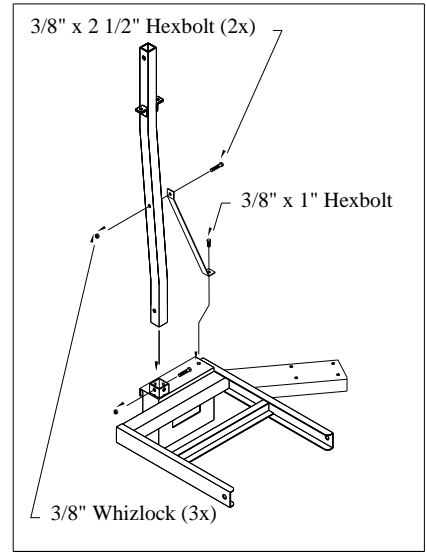

Fig. 3
3. Slip vertical support (7) into receiver tube on frame (1), with offset towards tractor (away from frame) as shown. Align slot in support brace (28) with hole about halfway up vertical support (7) and loosely secure with 3/8" x 2 1/2" hexbolt and whizlock nut. Adjust the height of the vertical support until the lower hole in the brace aligns with the hole in the top of the box on the frame (1). Loosely secure the upright with a 3/8" x 2 1/2" hexbolt and whizlock nut and the bottom of the brace with a 3/8" x 1" hexbolt and whizlock nut. **(Fig. 3)**